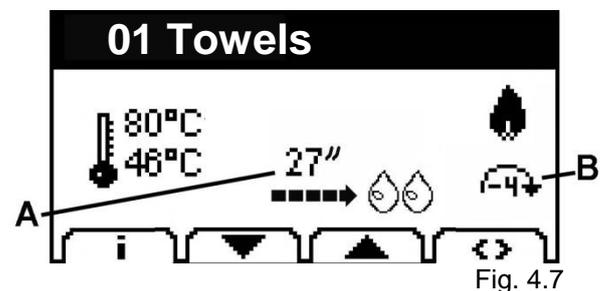

Fig. 4.7
- During the **drying stage**, the drying time elapsed is displayed (Fig. 4.7/A), and depending on the type of drying selected, the Autospeed  or speed change icon appears (Fig. 4.7/B).